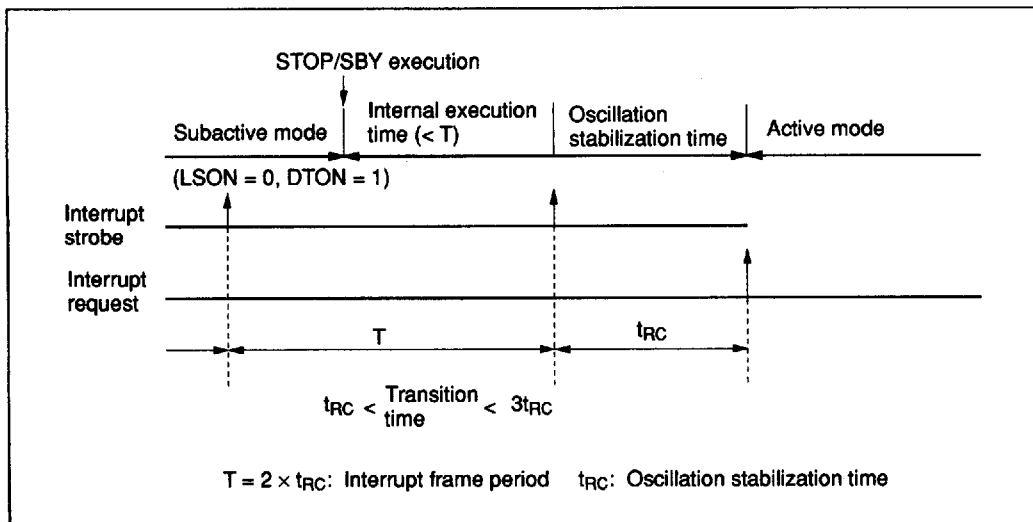

Figure 18 Timing of Subactive Mode Direct Transition
**Direct Transfer:** By controlling the DTON, the MCU is placed directly from subactive to active mode. The detailed procedure is as follows (figure 18):